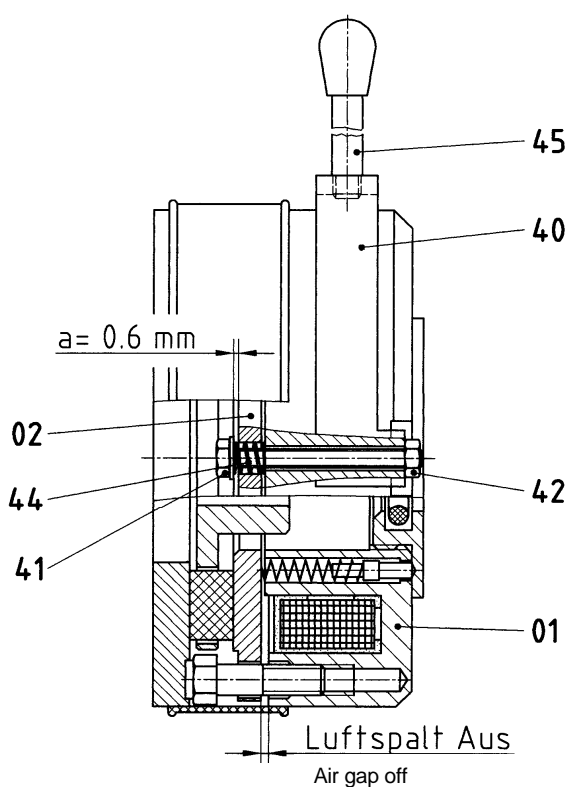
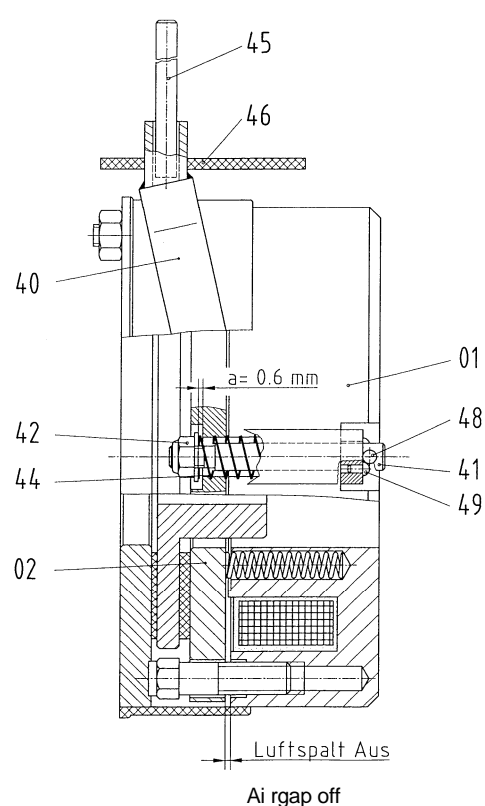

figure 2a
figure 2b
3.3.1. Mounting of manual release for the sizes BZFM 0,25 - 6,3 V7 (fig. 2a)
- Unscrew the complete coil body assy (coil body (01) and armature disc (02)) from the brake disc (03).
- Unscrew the two cyl. screws (11), which are no longer necessary after mounting of the manual release. (Caution! Thereby the pressure springs (07) unbend mechanically).
- Fit the two hexagon screws (41) (2x180°) with washer (43) and pressure spring (44) into the coil body (01) coming from the armature disc (02).
- Mount the complete coil body with the fitted hexagon screws (41) and brake disc (03) to the motor or to the pertinent machine part resp.
- Place the stirrup (40) on coil body side onto the standing proud screws (41) into the accordingly provided millings.
- Fix the stirrup (40) by a self-locking nut (42) each on the two screws (41) and adjust the dimension $a = 0,6 \text{ mm}$ (fig. 2a) with unreleased brake (airgap „off“ as per table 1 chap. 2.1.).
- Screw the lever (45) (with or without fan cap) into the accordingly provided thread of the stirrup (40).
3.3.2. Mounting of the manual release for the sizes BZFM 10 - 25 V7 (fig. 2b)
- Remove the two cyl. screws (11).
- Insert the pressure springs (44) into the accordingly provided bores (2x180°) on armature side (the cyl. screws (11) had been fitted into these bore before).
- Place the stirrup (40) onto the coil body (01) into the accordingly provided millings (2x180°).
- Put the bolt (41) with straight grooved pin (48) through the stirrup and the coil body.
- Screw the nuts (42) onto the thread of the bolt (41) on armature disc side and adjust the dimension $a = 0,6 \text{ mm}$ (fig. 2b) with unreleased brake (air gap „off“ as per table 1 chap. 2.1.).
- Mount the fan cap to the brake, if any. Thereby the connection piece of the stirrup (40) of the manual release stands proud the recess of the fan cap.
- Push the rubber plate (46) onto the connection piece of the stirrup (40) of the manual release on the fan cap up to limit stop.
- Only when intended to release the brake mechanically, fit the lever (45) into the connection piece of the stirrup (40).